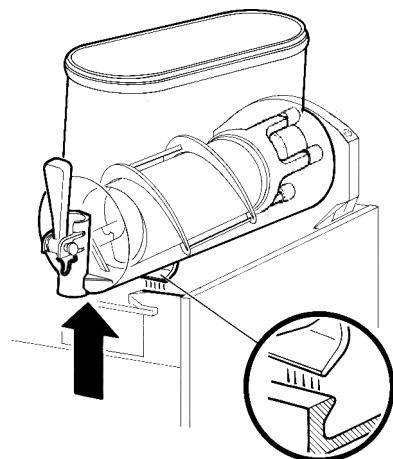
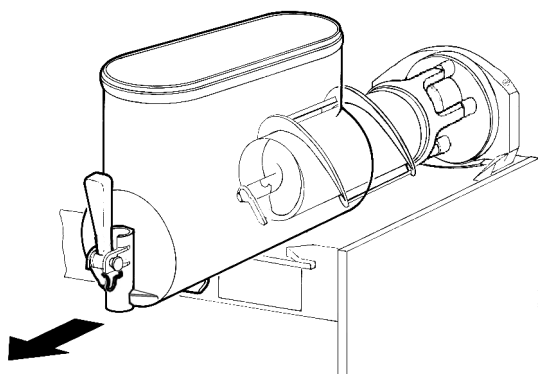

figure 5
figure 6
- 2 - Remove the bowl by lifting its faucet side up and off the fastening hooks (see figure 5) and slide it out (see figure 6).